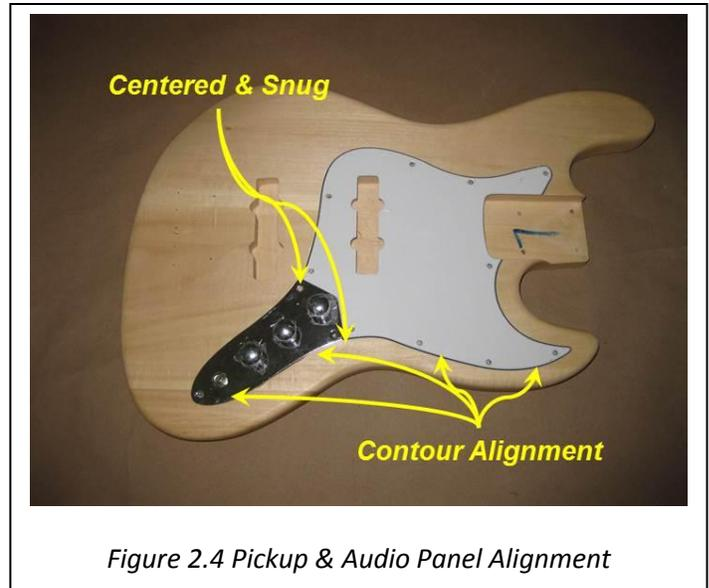

Figure 2.4 Pickup & Audio Panel Alignment
5. With the pickguard in place, recheck the alignment of the Audio Control Panel, pickguard and guitar contour to ensure proper positioning. Also note the junction of the pickguard and control panel - they should be snug and centered on each other (Figure 2.4).
7. Using 3/8" screws (item 2 on Material list), temporarily attach the pickguard and audio control panel to the body. Confirm contour alignment as you attach the components.